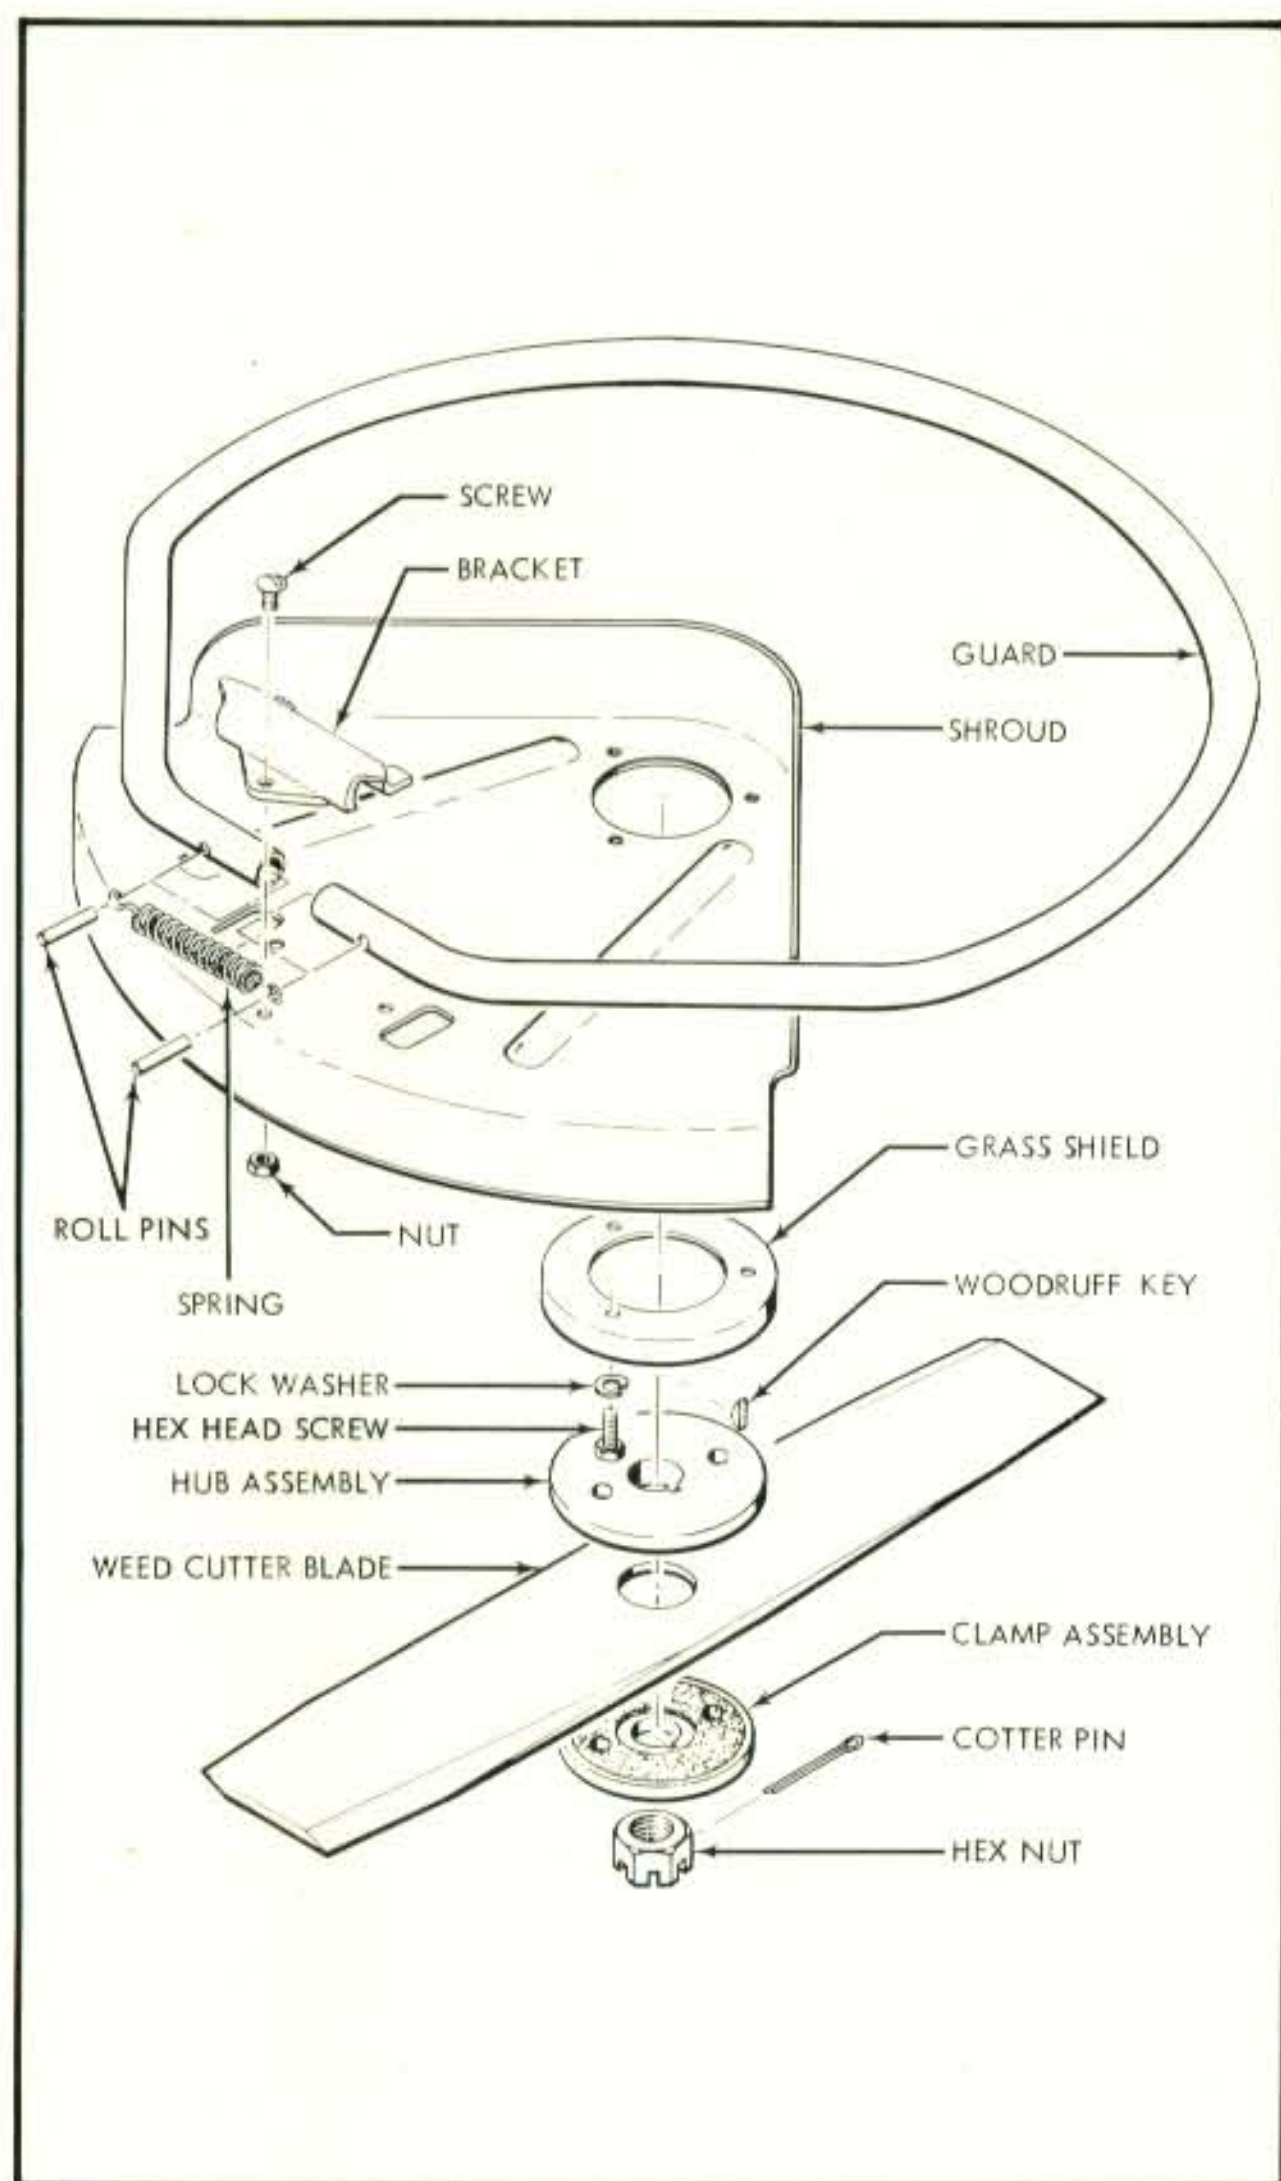

Figure 14. Installation of Weed Cutter Kit 57630
1. Assemble the Shroud Assembly onto the Guard Assembly with the Bracket, three 10-24 x 3/8-inch long screws (P/N 100415), and three 10-24 hex nuts (P/N 101191). (See Figure 14.) Place the assembled parts on the gear housing drive shaft.